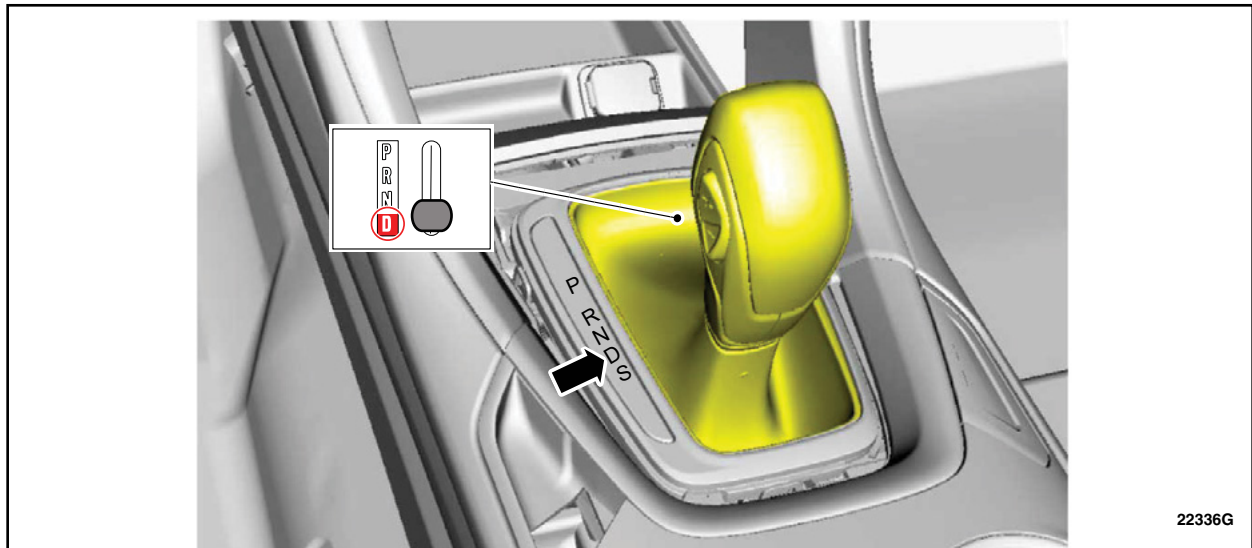

FIGURE 10
11. The vehicle's transmission gear selector lever should be in Drive position from Step 2, if not, position the selector lever to Drive (D). See Figure 10.